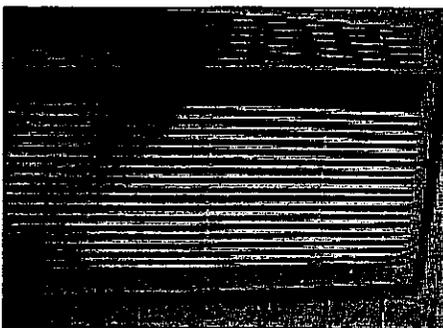

FIG. 1
- Grasp filter and remove by pulling the filter up and out (FIG. 1).